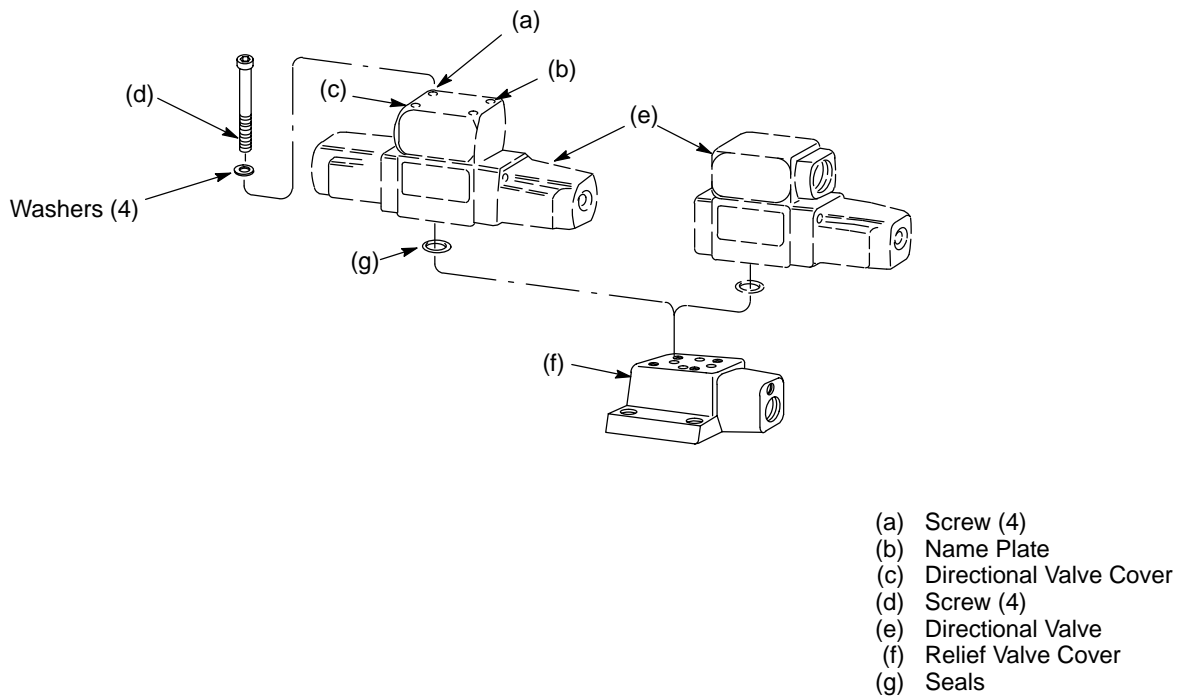

Figure 6. C*5 Solenoid Controlled Relief Valve
11. Assemble directional valve on cover in reverse alphabetical sequence as shown in Figure 6. Torque screws (d) to 5.6 Nm. maximum (50 lb. in.).